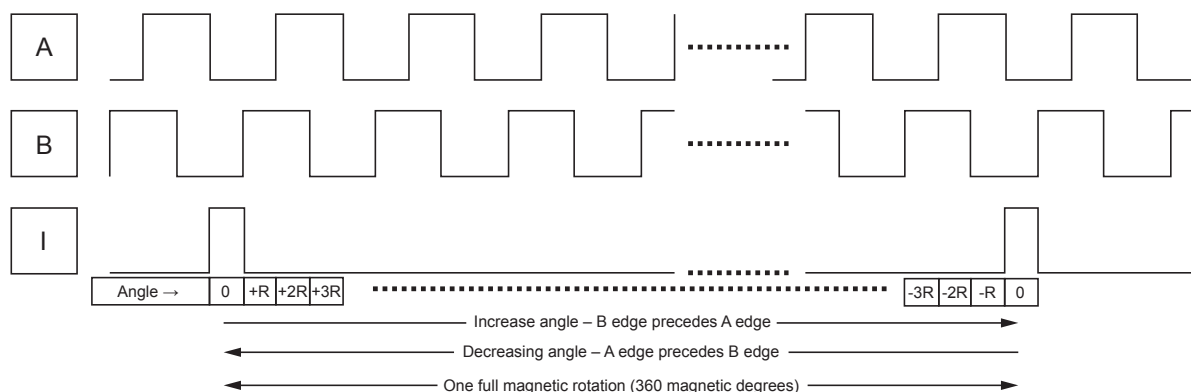

Figure 24: One Full Magnetic Revolution
a frequency of 2^N cycles per magnetic revolution, giving a cycle resolution of $(360 / 2^N)$ degrees per cycle, where N is set by the RESOLUTION_PAIRS field in EEPROM; see Table 2. B is offset from A by $\frac{1}{4}$ of the cycle period. The “I” signal is an index pulse that occurs once per revolution to mark the zero (0) angle position. One revolution is shown in Figure 24.